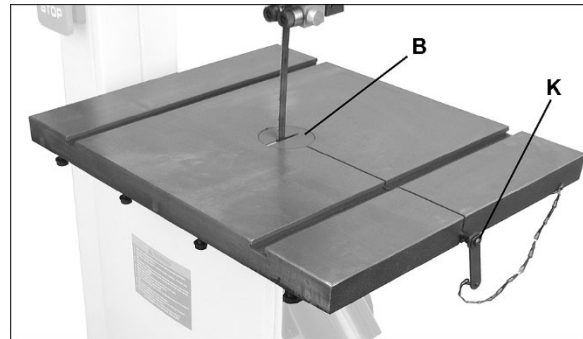

Figure 5-5: table and guide rail installation
2. Pull table pin (K, Figure 5-5) out of its slot, and remove table insert (B).
4. Install table insert (B, Figure 5-5). Blade should be positioned at center of insert opening. If it is not, nudge table left or right as needed to center it.